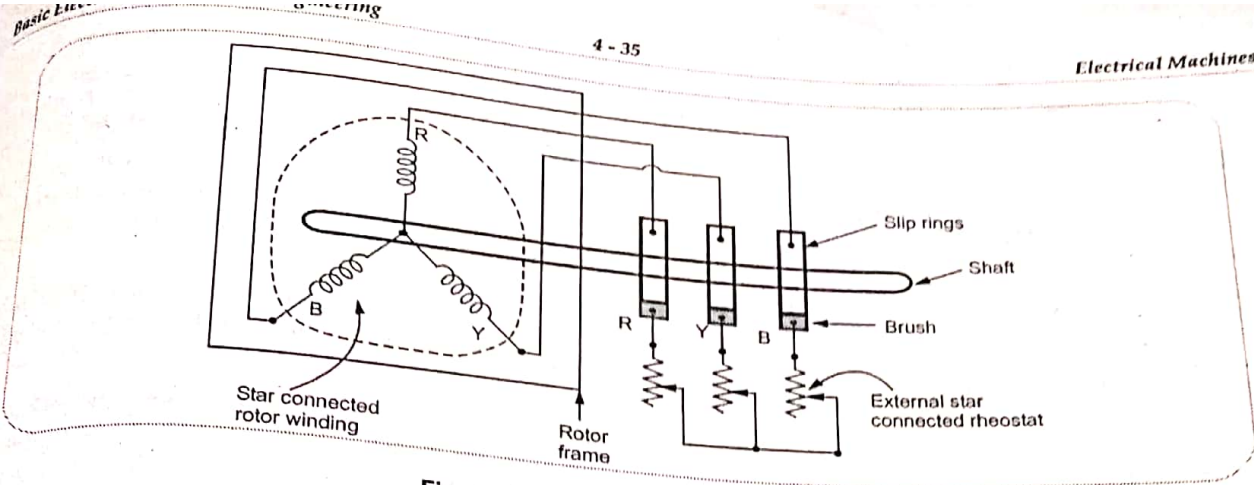

Fig. Q.57.3 Slip rings or wound rotor
• With the help of slip rings, the external resistances can be added in series with each phase of the rotor winding. This arrangement is shown in the Fig. Q.57.3.